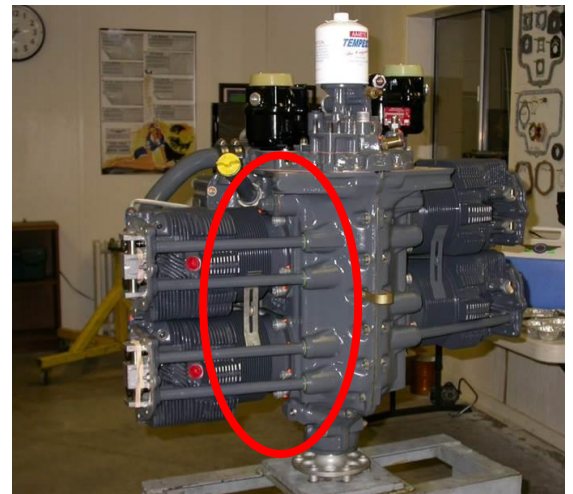

Figure 4. Engine on stand showing torque seal on fasteners.
- Also use torque seal to verify that the applied torque has not changed and to visually confirm which fasteners have been torqued (see figure 4).